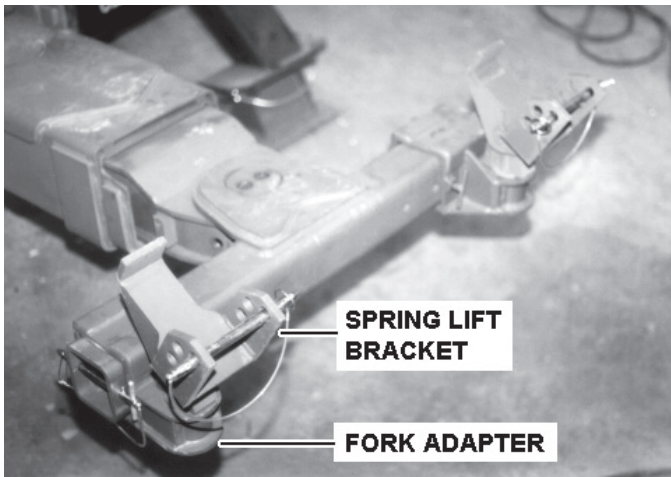

FIGURE 4A.8
- (c) Position fork adapters in desired position on crossbar. (Fork adapters may be placed in any of four (4) positions). Place retaining pins in holes in crossbar and secure with lynch pins. Refer to Figures 4A.3 and 4A.4.
- (d) Retrieve spring lift brackets from storage and install on fork adapters on crossbar. See Figure 4A.8.